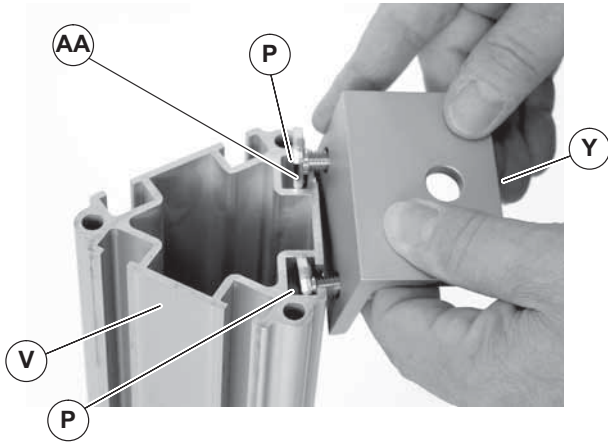

Figure 12
- Align the foot bracket edge (Figure 12, item Y) with the bottom edge of the trileg post (V).
<p>Failure to secure screws (Figure 12, item P) may cause conveyor sections to drop down, causing severe injury.</p> <p>TIGHTEN ALL SCREWS (P) AFTER ADJUSTMENT.</p>
- Tighten socket screws (Figure 12, item P) to 100 in-lb (11 N-m)